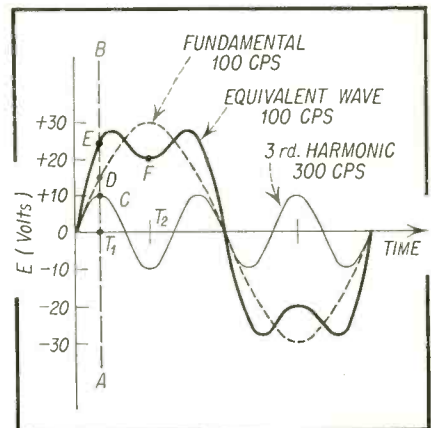
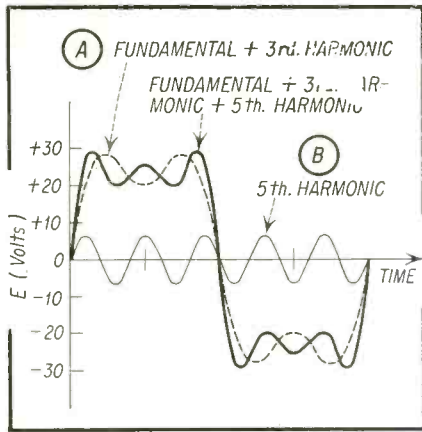
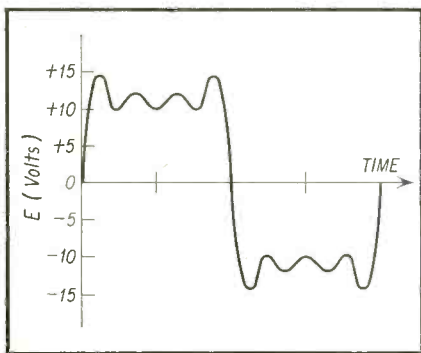

Fig. 2—Combination of fundamental and 3rd harmonic as the first step in the synthesis of the square wave.
Fig. 3 — Closer approach to truer square wave is observed as additional harmonics are added.
Fig. 4—Equivalent voltage obtained when 3rd, 5th, and 7th harmonics are combined with the fundamental.
d) And so on down the line for the 7th, 9th, 11th, etc., etc., harmonics. To further clarify this concept, suppose we examine what happens when we combine these harmonics graphically. In Fig. 2, the dashed line represents the fundamental of 100 cps, and the light line represents the 3rd harmonic, the amplitude of which you will notice is 1/3 the amplitude of the fundamental. To find the curve of voltage which is the equivalent of these two acting simultaneously, the following procedure is used.
4. Combining these two gives a resultant voltage of +25 volts. Thus, at the time selected, the equivalent voltage is +25. This locates point E, on the t_1 line and 25 volts above the axis. A similar procedure would show that at t_2 the contributing voltages are +30 from the fundamental and -10 from the 3rd harmonic, giving a resultant of +20, as indicated by F of Fig. 2.
In Fig. 3, the dotted line is simply a repetition of the solid line curve of Fig. 2, and represents, as noted previously, the combination of a fundamental and a third harmonic with 1/3 the amplitude of the fundamental. Of course this is a far cry from a square wave but it is certainly closer to a square wave than fundamental sine wave we started with. Its sides are steeper, and in spite of the dip at the center, the top is beginning to flatten out.
The light solid line in Fig. 3 represents the fifth harmonic of the fundamental, with an amplitude one fifth that of the fundamental. Without repeating the details, curves A and B in this figure may be combined by the same procedure previously outlined for the combination of the fundamental and 3rd harmonic. The result would be the curve shown by the heavy solid line of Fig. 3. When the 7th harmonic is added to this, Fig. 4 results. Comparing Figs. 2, 3, and 4 indicates that: